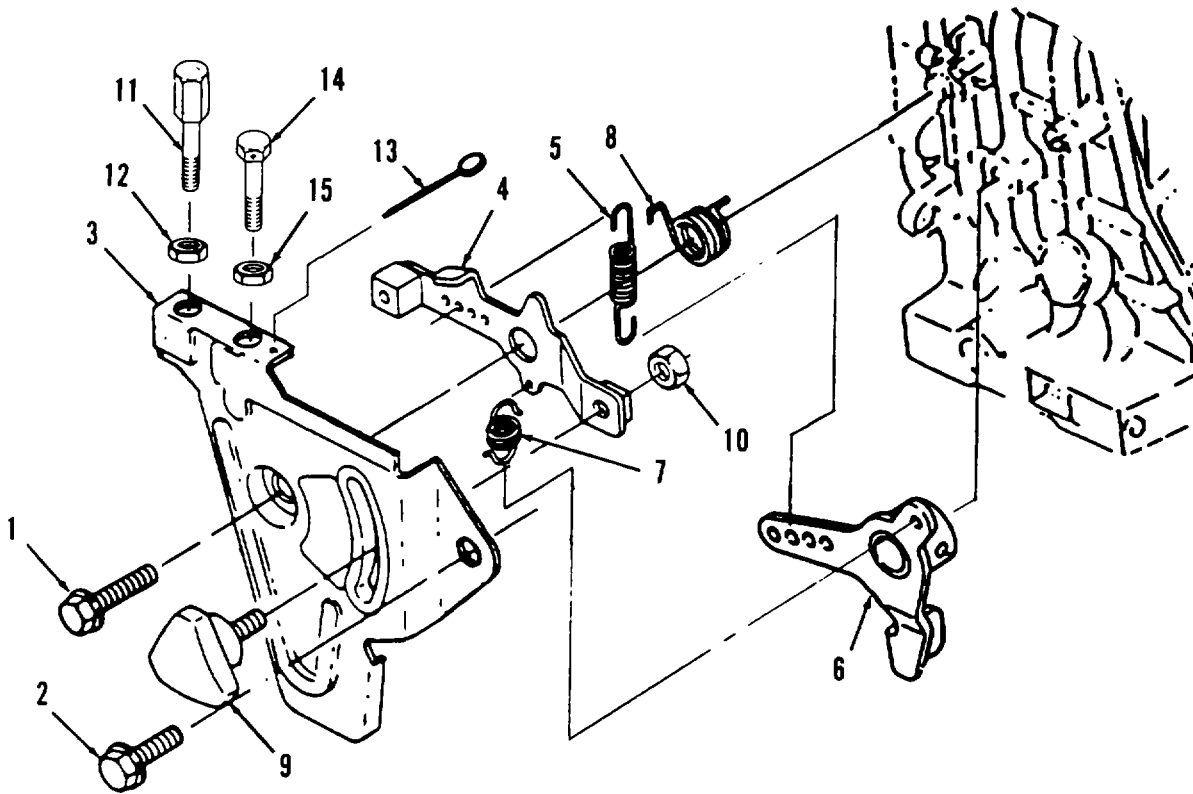

Figure 5-4. Regulator Bracket Assembly Repair and Replacement.
a. Removal. (Refer to Figure 5-4).
- (1) Remove mounting bolts (1 and 2).
- (2) Remove regulator bracket (3) with regulator lever (4) and springs attached.
- (3) Remove regulator spring (5) from the governor lever (6) and regulator lever (4).
- (4) Remove return spring (7) from the governor lever (6) and regulator lever (4).
- (5) Remove regulator coil spring (8).
- (6) Remove regulator lever (4) from regulator bracket (3) by unscrewing lever locking knob (9) and lock nut (10).
- (7) Remove adjusting bolt (11) and nut (12).
- (8) Remove wire (13), bolt (14), and nut (15).